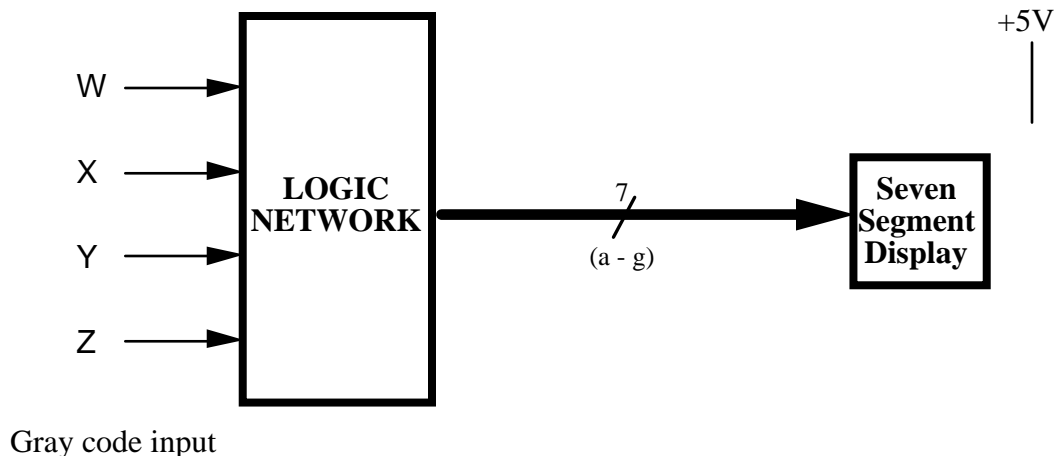
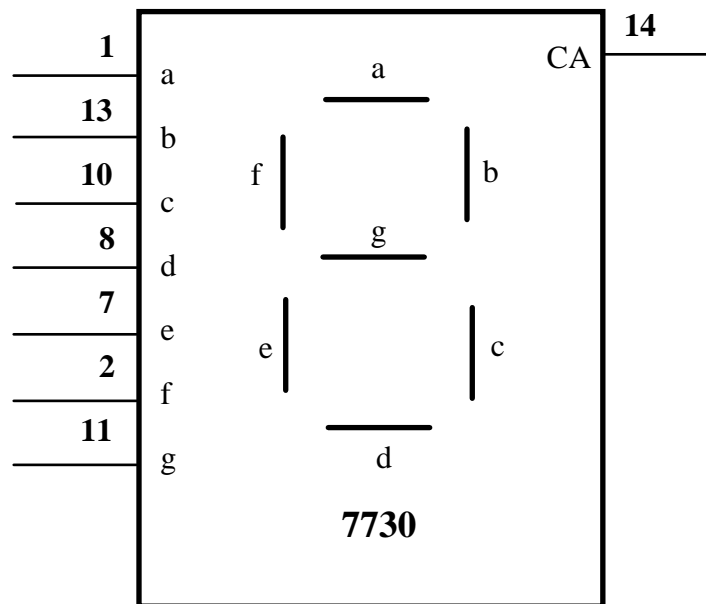

Figure 1. System Block Diagram
Figure 2. 7730 7-Segment Display Pin-out
- a) Design a combinational network which takes a 4-bit Gray code input and displays a corresponding decimal number on a 7-segment display, as shown in Figure 1. The table on the last page shows the Gray code input patterns and the desired output display values. You should fill in the remainder of the table for each of the 7-segment driver signals, a-g, such that the appropriate decimal number is displayed on the 7-segment display. (The segment labels are shown in Figure 2.) Note that the 7-segment display is *active low*, meaning that a low voltage is used to light a segment and a high voltage is used to keep a segment un-lit. For example, to display 0 on the 7-segment display, segments a-f should be lit and segment g should be off. Therefore, to display 0 signals a-f should be low (0) and g should be high (1) as shown in the table. If an input is given which is not a valid Gray code (i.e. not shown in the table), the output is unspecified or "don't care". Several entries in the table have been given as examples. The digits 6 and 9 can be represented in two different ways on a 7-segment display, so one of the segments in each of these outputs is specified as a don't care. You can use whichever representation is easier to implement.
Make sure that you connect a 330 to 500 ohm resistor to *each* segment input of the 7-segment display. Explain why this is necessary in your lab report. (Refer to section 3.5 in your text.) The pin-out of the 7-segment display is shown in Figure 2.